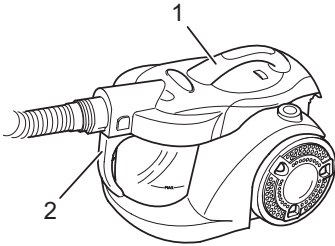

Fig. 14
- To **transport** the cylinder vacuum cleaner you can carry it by the carrying-handle (Fig. 14/1) or the transportation handle (Fig. 14/2)